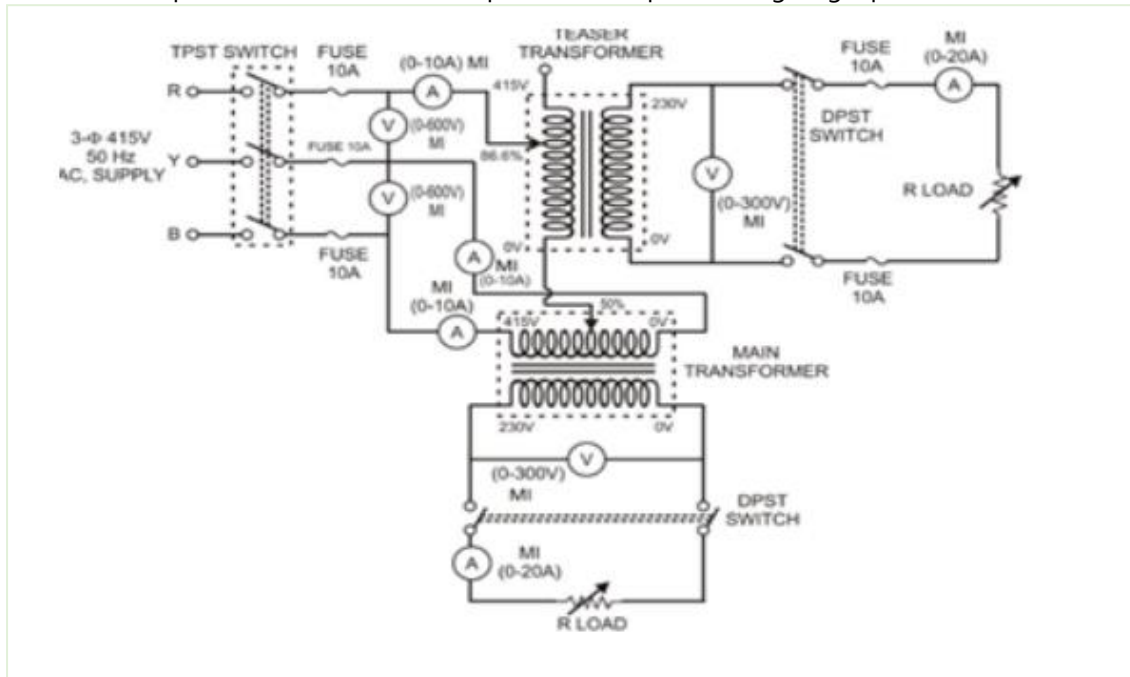

Figure 4 - SCOTT CONNECTION OF TRANSFORMERS
1. Calculate the different currents and voltages by using voltmeters and ammeters from Figure 4.